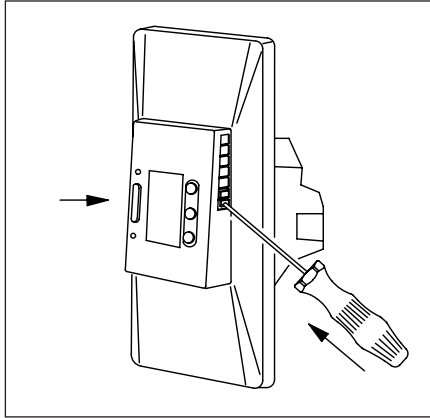

Fig. 2
2. Connect cables according to the diagram (fig. 2)